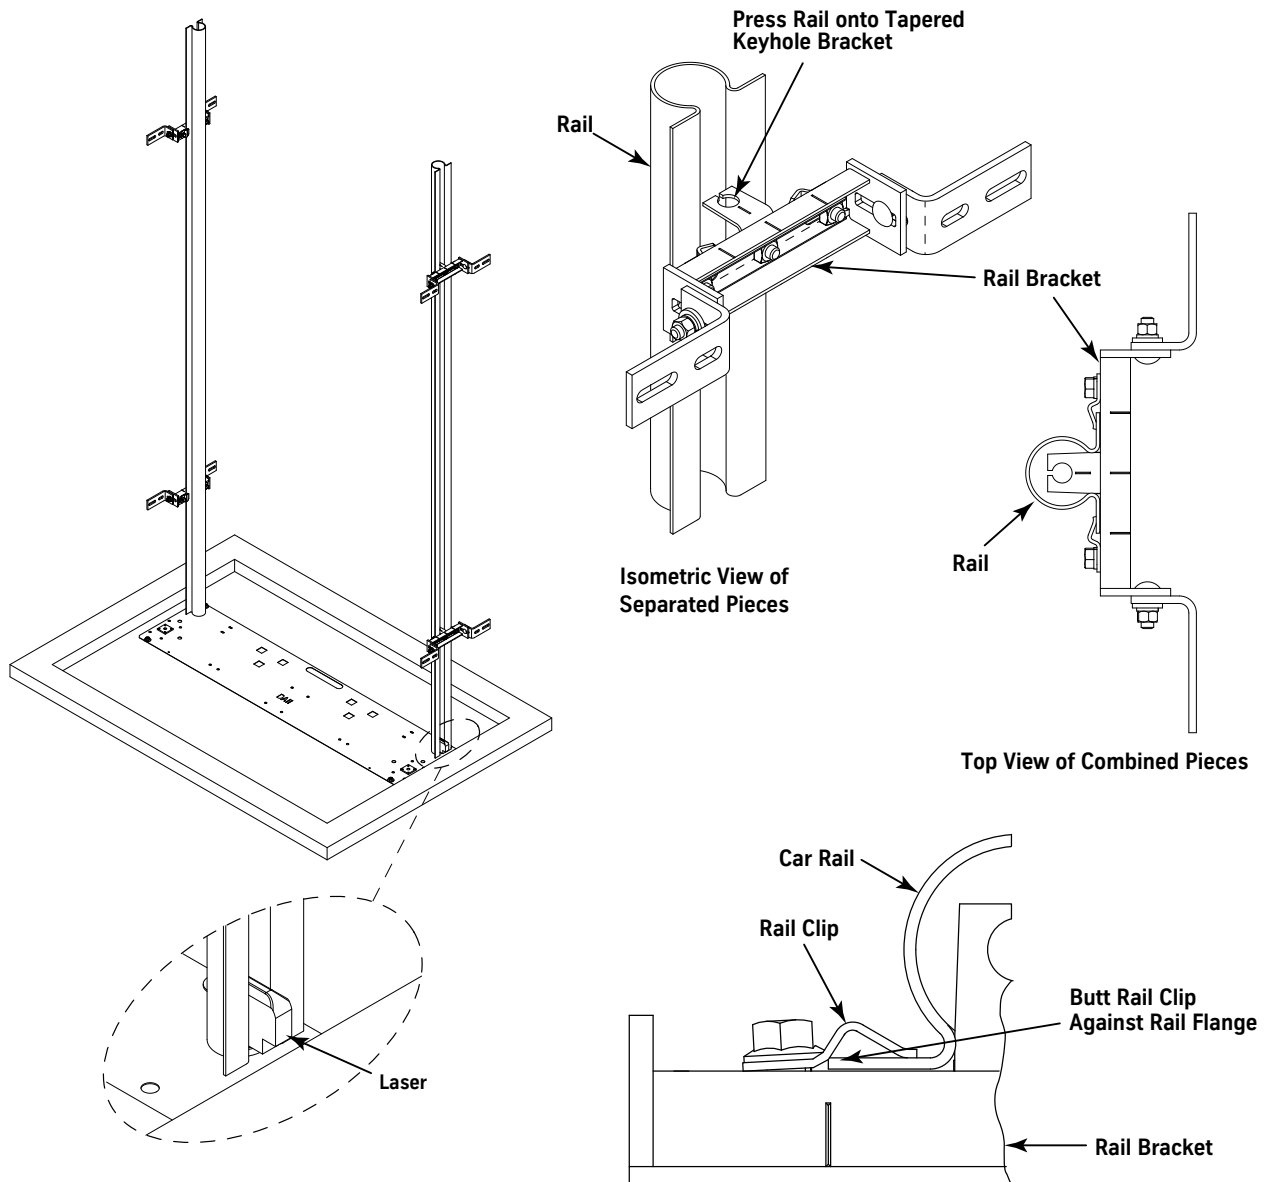

Figure 58 - Car Rail Installation
2. Press the rail onto the tapered keyhole brackets. See Figure 58.